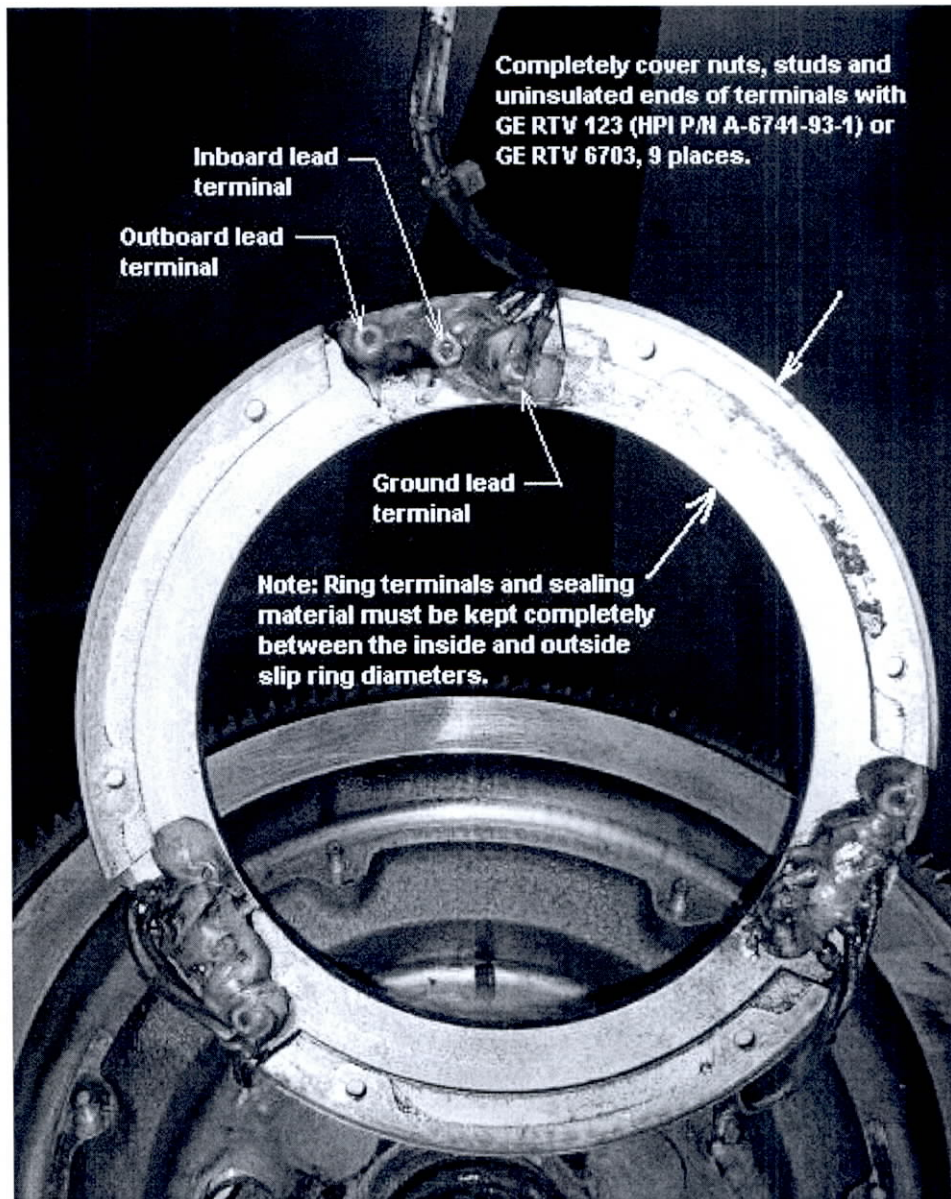

FIGURE 2
4. Connect finished terminal end of Hartzell P/N 103762 outboard (outer diameter terminal), inboard (middle diameter terminal) and ground (inner diameter terminal) labeled wires (Item 1) to slip ring studs in accordance with Figure 2. Torque nuts 8-10 in-lbs. Completely cover nuts, studs and un-insulated ends of terminals with GE RTV 123 (HPI P/N A-6741-93-1) or GE RTV 6703.